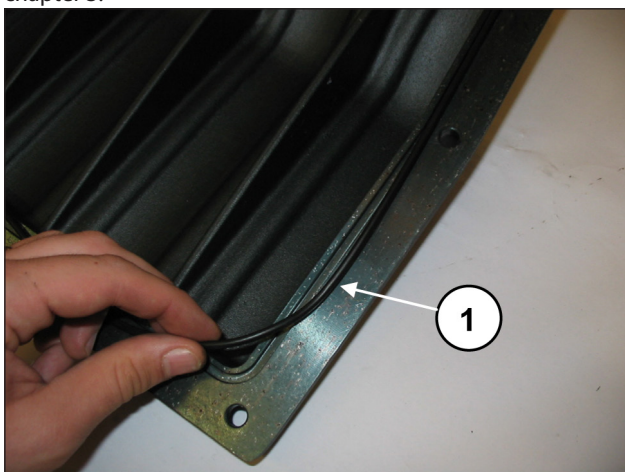
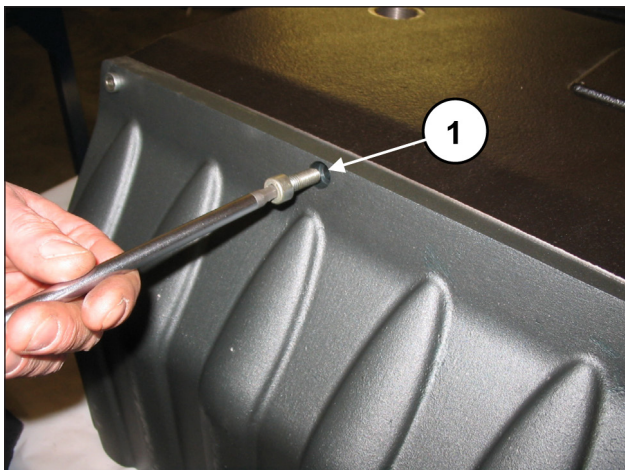

Fig. 92
Fig. 93
Insert the O-ring on the rear cover (pos. ①, Fig. 92) and fasten it to the casing with 10 x M8x20 screws (pos. ①, Fig. 93). Calibrate the screws with a torque wrench as indicated in chapter 3.